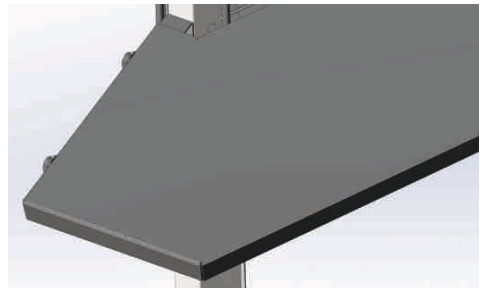

Fig. 19
6. install the stand as shown in Fig. 19, put the bolts into the holes, but do not tighten them with nuts;